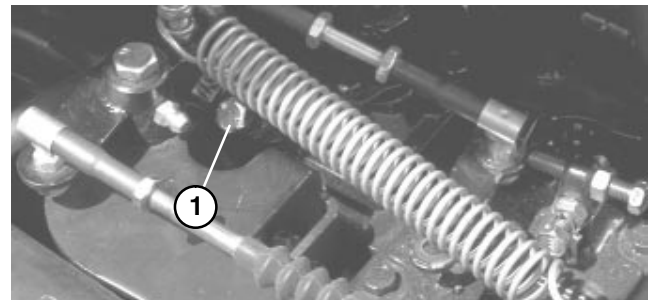

Figure 21
4. Open the air bleeder screw on the fuel injection pump (Fig. 21) with a 10 mm wrench.